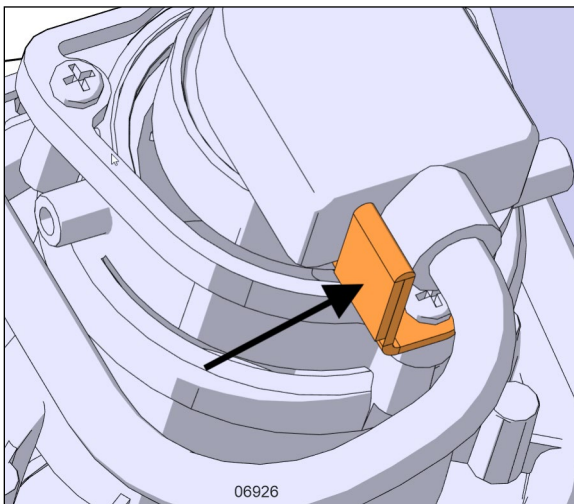

FIGURE 92: CONNECTOR STOPPER
4. Install the new bulb by reversing the previous steps and make sure the connector stopper is in place (Figure 92). **Make sure the connector is properly connected.**